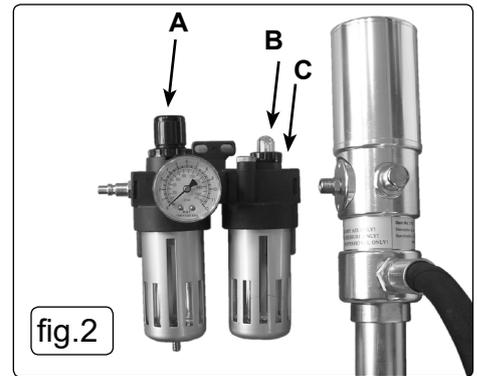

fig.2
- 4.1.1. Apply a small amount of liquid thread sealant onto the threads of the air inlet of the pump and attach the air regulator/lubricator (fig.2).